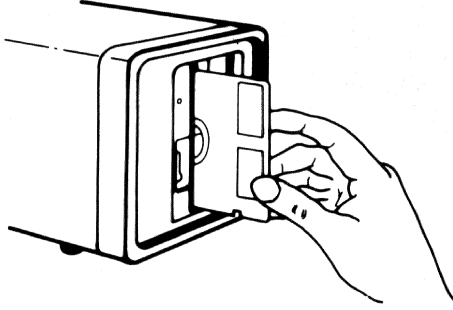

Figure 3.8 Insert the Disc
- Insert the disc with the maker's label towards the latch, and the long oval cutout in the black envelope leading, as shown in figure 3.8.